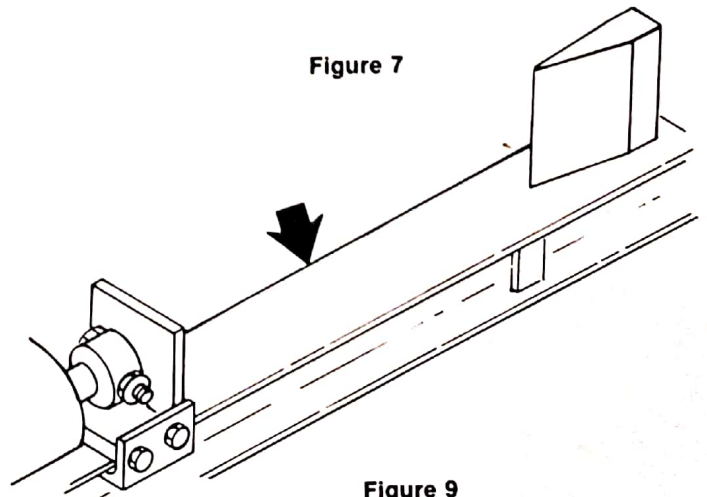

Figure 9
**Step 5)** Lubricate top surface area of main beam with engine crankcase oil or any type of lubrication oil. (Fig. 9)